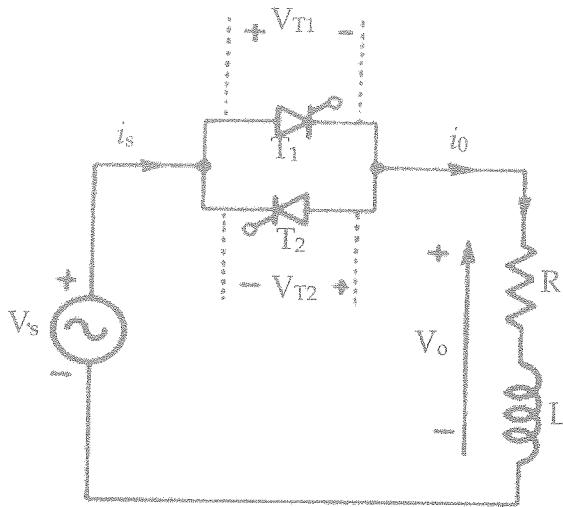

Figure Q4a: Single-phase controlled AC voltage controller
iii) A Single-phase controlled AC voltage controller with an inductive (RL) load is shown in Figure Q4a. Plot the supply voltage V_s , output current i_o and output voltage V_o in the same time scale. Assume $\alpha = 30^\circ$.